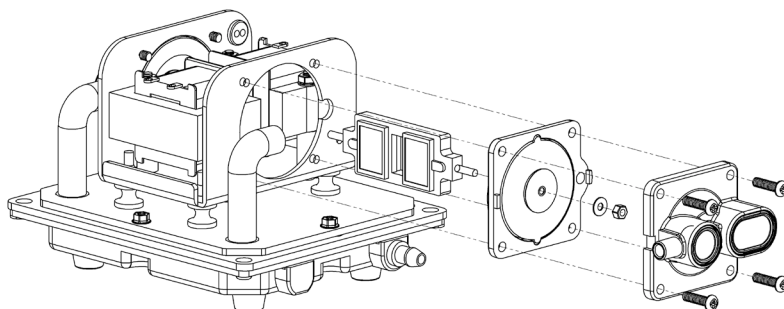

Figure 2
- B. Remove the four screws from the diaphragm housing. (As shown in figure 2)